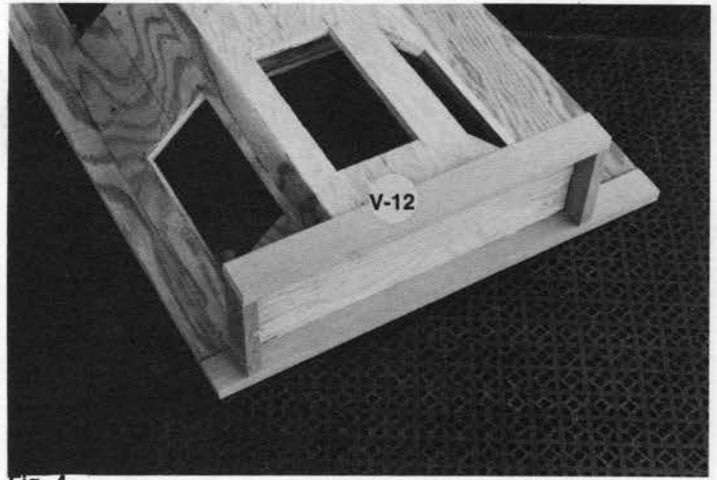

Fig. 4
STEP 4: Check V-12 for length and install as in (FIGURE 4).